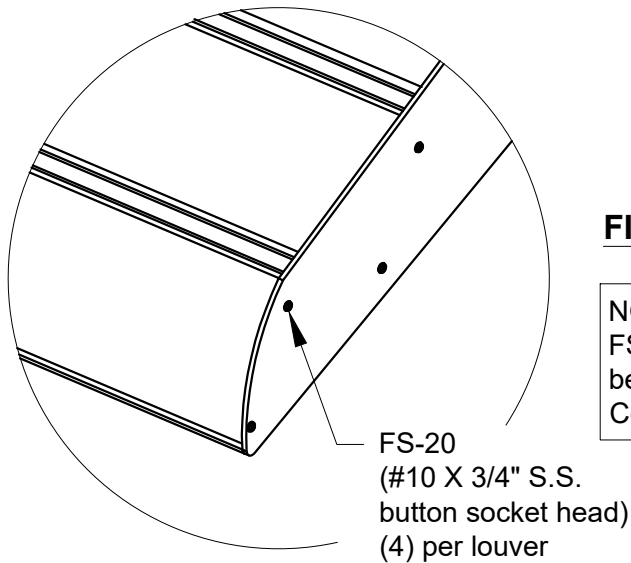

FIGURE 35
- 3) Attach outriggers to louvers using FS-20 (#10 x 3/4" stainless steel button socket head). Quantity of fasteners will vary based on sunshade depth. See FIGURE 35.